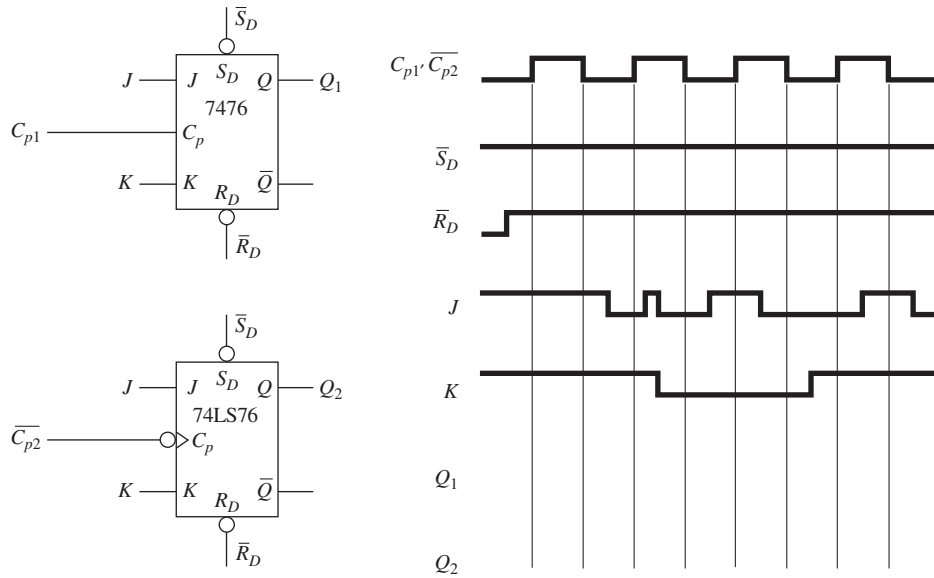

Figure P26
- C 26. The logic symbol and input waveforms for both the 7476 and 74LS76 are given in Figure P26. Sketch the waveform at each *Q* output.